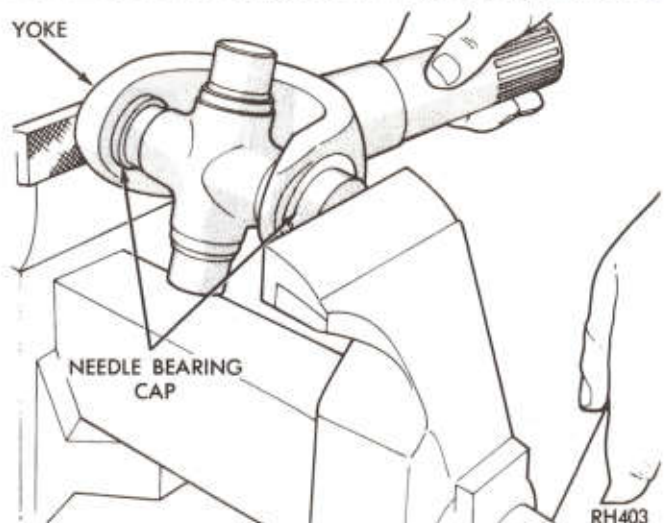

Fig. 10—Pressing Cross and Cap into Yoke
(4) Replace yoke in vise and press cap into yoke and onto arm of cross (Fig. 10).
(5) With aid of a short plug or socket, press bearing cap into proper position. Install snap ring.
(6) Repeat procedure as outlined in items 1 through 5 for installing remaining caps and yoke.